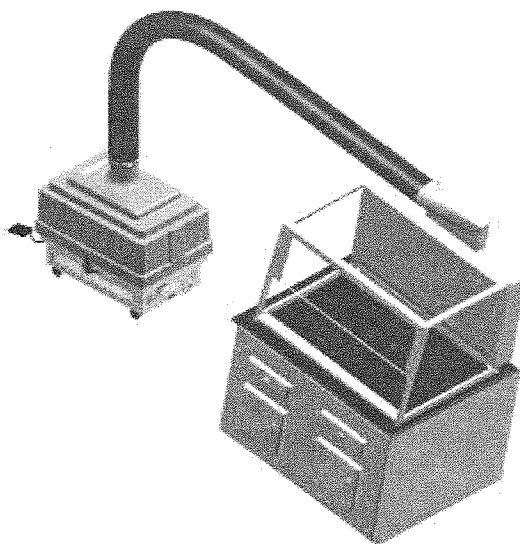

Figure 1
Figure 1 shows the FilterMate Mobile Station™ connected to a 3' Ventilation Station with the provided clamps and connecting duct. Cabinet, work surface, and Protector Ventilation Station are not included.
- The FilterMate can be positioned for easy foot switch operation. Refer to Figure 1 on page 3 for location of transition piece, hose clamps, and duct hose.